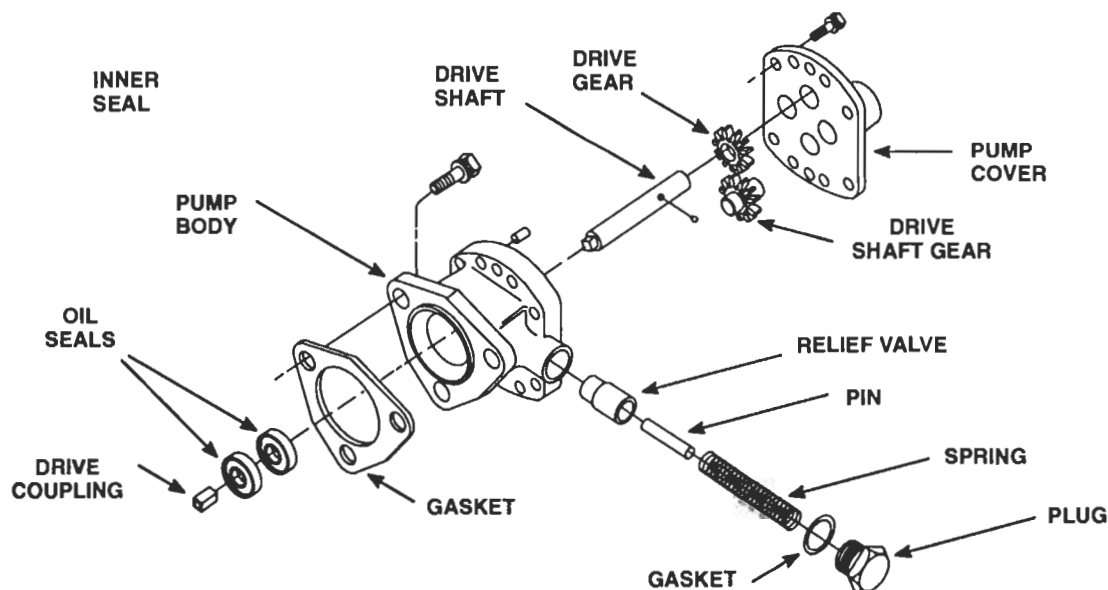

Figure 7. Fuel Pump Components
1. Lubricate the lips of the oil seals (Figure 7.) with a light coat of vegetable shortening, then install the oil seals in the pump body as follows: